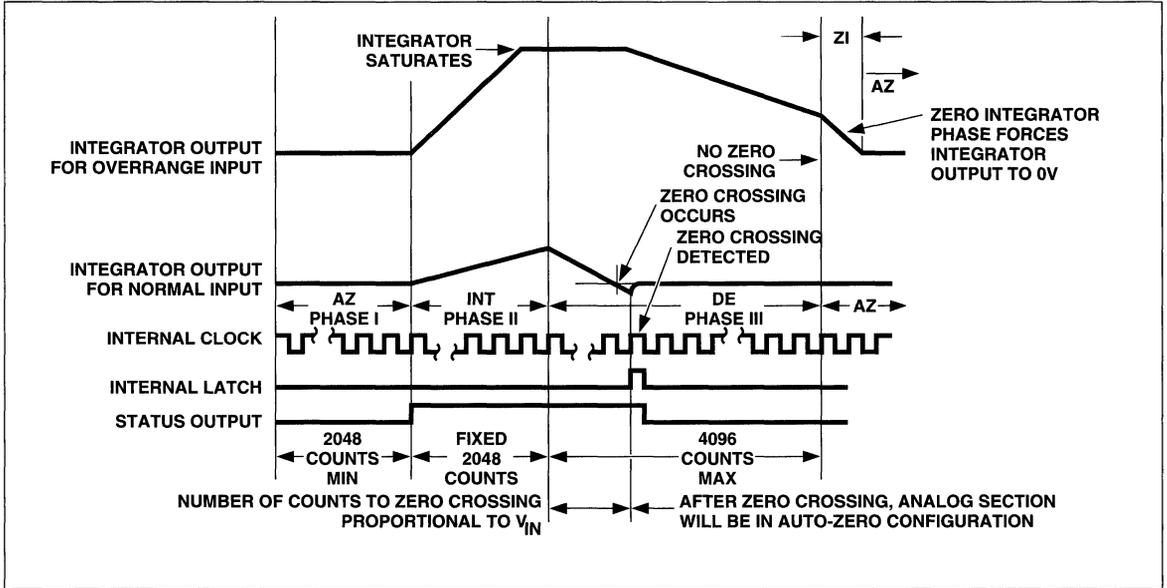

Figure 3 Conversion Timing (RUN/HOLD Pin High)
The functional diagram shows a block diagram of the analog section of the TC7109A. The circuit will perform conversions at a rate determined by the clock frequency (8192 clock periods per cycle), when the RUN/HOLD input is left open or connected to V^+ . Each measurement cycle is divided into four phases, as shown in Figure 3. They are: (1) Auto-Zero (AZ), (2) Signal Integrate (INT), (3) Reference Deintegrate (DE), and (4) Zero Integrator (ZI).
During ZI, the reference capacitor is charged to the reference voltage. The signal inputs are disconnected from the buffer and integrator. The comparator output is connected to the buffer input, causing the integrator output to be driven rapidly to 0V (Figure 3). The ZI phase only occurs following an overrange and lasts for a maximum of 1024 clock periods.
During a conversion cycle, the STATUS output goes HIGH at the beginning of signal integrate and goes LOW one-half clock period after new data from the conversion has been stored in the output latches (see Figure 3). The signal may be used as a "data valid" flag to drive interrupts, or for monitoring the status of the converter. (Data will not change while status is LOW.)
When the RUN/HOLD input high, or open, the circuit operates normally as a dual-slope ADC, as shown in Figure 3. Conversion cycles operate continuously with the output latches updated after zero crossing in the deintegrate mode. An internal pull-up resistor is provided to ensure a HIGH level with an open input.